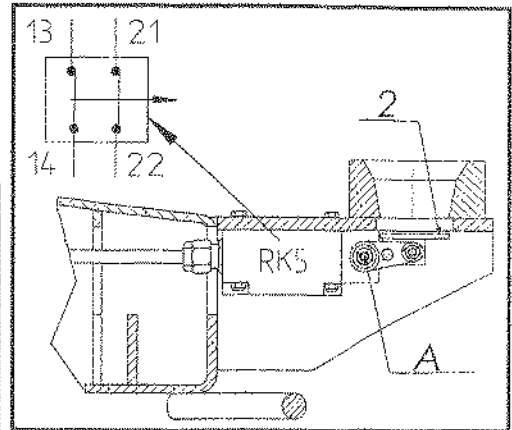

Figure 18-3
3. Carefully press the limit switch lever to position 2 (figure 18-3, switch plate parallel to the frame). In this position points 13-14 and 21-22 of the limit switch should close. This position prevents the use of booms when the outriggers are not in support position, however, allowing the booms to be used with the override switch within the limits set by the limit switches of raising and slewing of the booms (limit switches RK10 and RK9).
4. If the limit switch does not function in the above described manner, open the locking nut A of the limit switch lever (figure 18-3) and adjust the limit switch by changing the position of the limit switch lever.